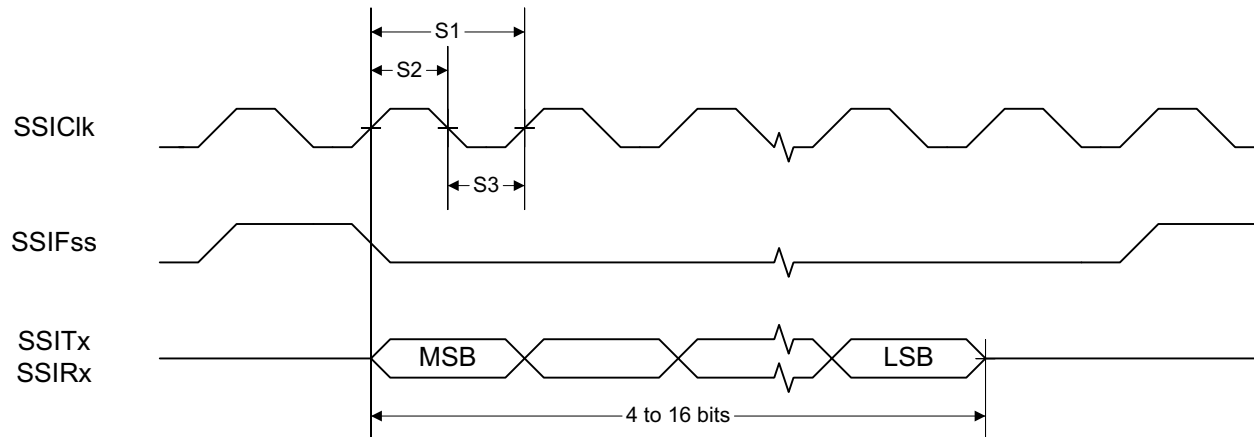
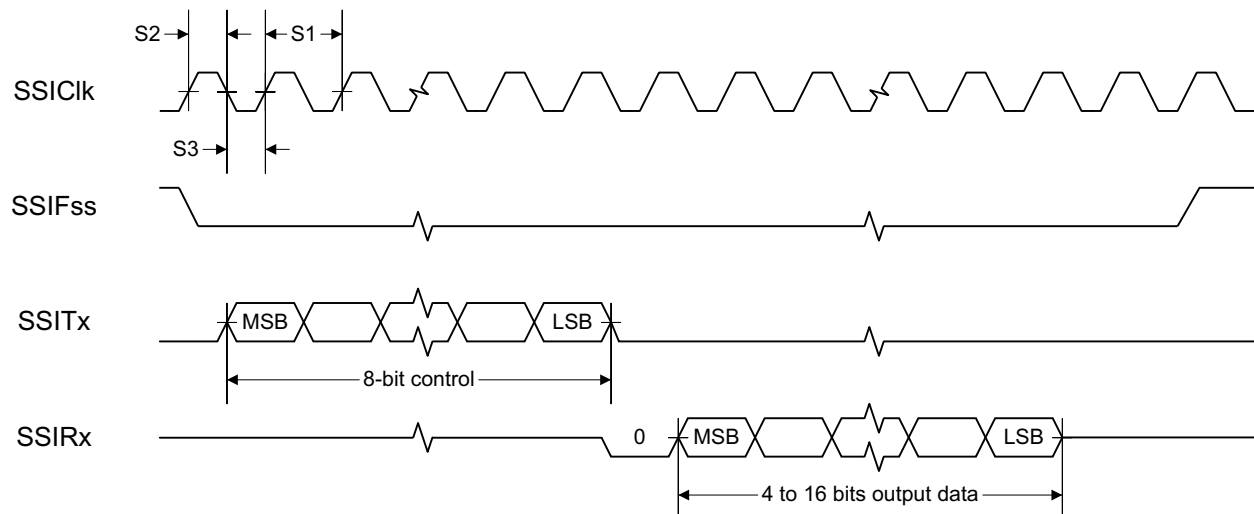
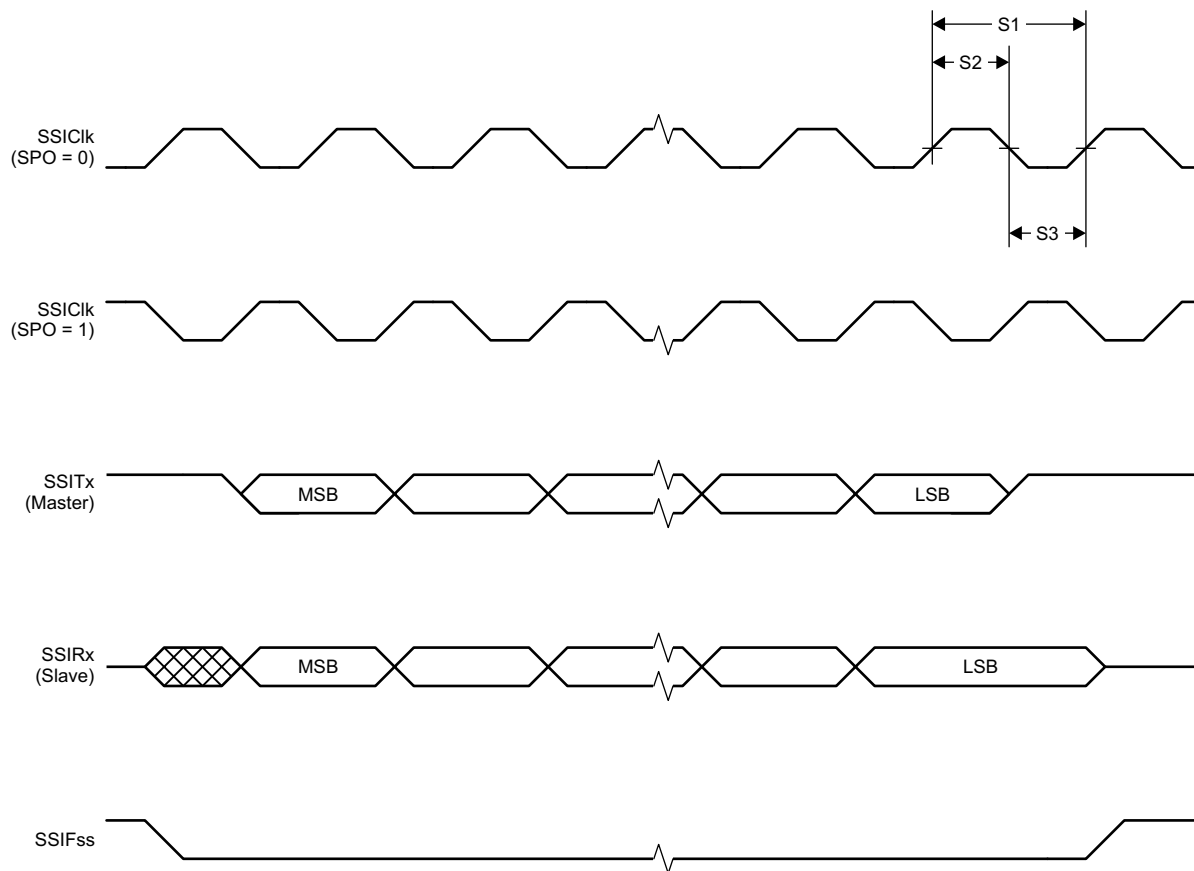

Figure 5-1. SSI Timing for TI Frame Format (FRF = 01), Single Transfer Timing Measurement
Figure 5-2. SSI Timing for MICROWIRE Frame Format (FRF = 10), Single Transfer
Figure 5-3. SSI Timing for SPI Frame Format (FRF = 00), With SPH = 1
- (1) For smaller coin cell batteries, with high worst-case end-of-life equivalent source resistance, a 22-μF VDD input capacitor (see Section 7.1.1) must be used to ensure compliance with this slew rate.
- (2) Applications using RCOSC_LF as sleep timer must also consider the drift in frequency caused by a change in temperature (see Section 5.14).
- (3) T_A = –40°C to +85°C, V_{DD} = 1.7 V to 3.8 V, unless otherwise noted.
- (4) T_c = 25°C, V_{DD} = 3.0 V, unless otherwise noted. Device operating as slave. For SSI master operation, see Section 5.24.
- (5) Refer to the SSI timing diagrams Figure 5-1, Figure 5-2, and Figure 5-3.
(1) Device operating as master. For SSI slave operation, see Section 5.23.
(2) Refer to SSI timing diagrams Figure 5-1, Figure 5-2, and Figure 5-3.